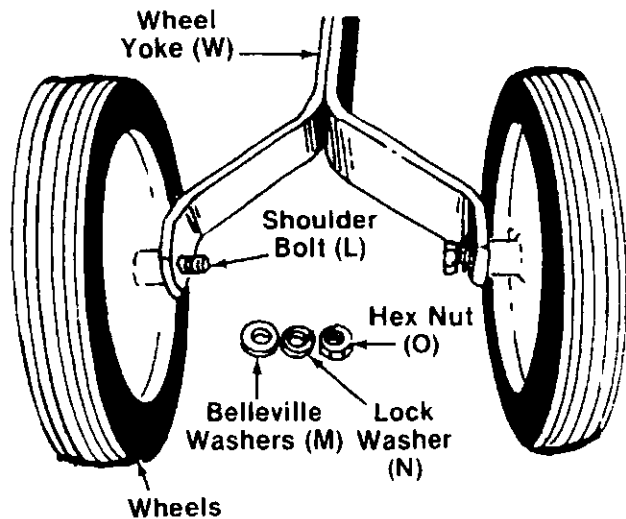

FIGURE 5.
5. Assemble wheels (T) to wheel yoke (W) with shoulder bolts (L), belleville washers (M) (cupped side of washer is against the wheel yoke), lock washers (N) and hex nuts (O) as shown in figure 5. A $\frac{3}{4}$ " wrench and an adjustable wrench is required.